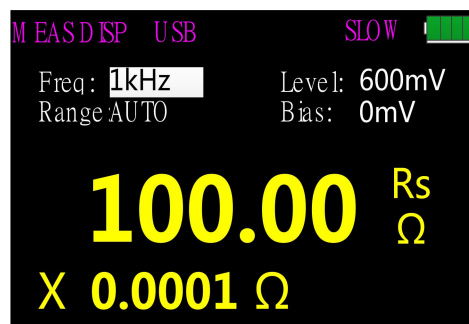

Figure 16
2. Press the **AUTO/R/C/L/Z** key until Rs is displayed on the interface which means to select resistance measurement, shown in figure 16;